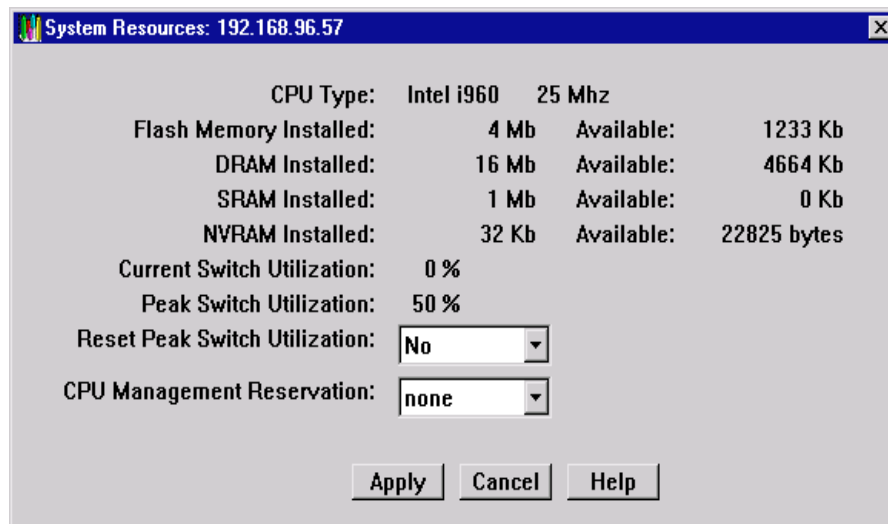

Figure 2-21. The System Resources Window
2. Select **System Resources**. The System Resources window, Figure 2-21, opens.